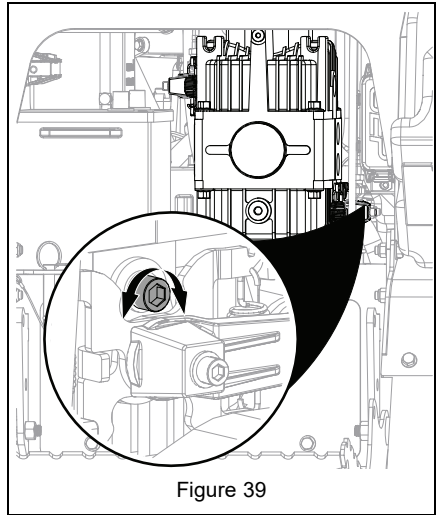

Figure 39
3. Loosen one of the return-to-neutral screws on either side of the pump. See Figure 39.